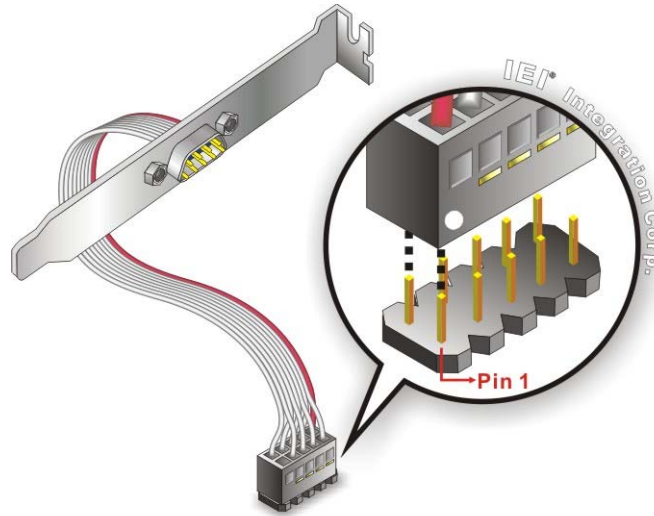

Figure 4-13: Single RS-232 Cable Installation
Step 2: Insert the cable connector. Align pin 1 on the on-board serial port pin header with pin 1 on the serial port connector. Pin 1 on the serial port connector is indicated with a white dot. Insert the connector into the serial port pin header. See **Figure 4-13**.